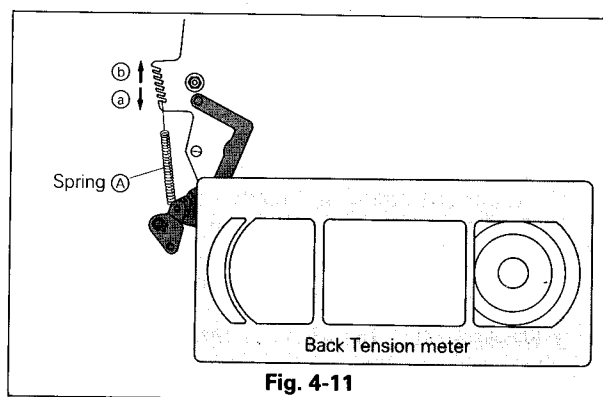

Fig. 4-11
- If the mean value exceeds 47g-cm adjust the value to 42g-cm by adjusting the location of the spring (A) in the direction of arrow a as shown in Fig. 4-11.
- If the pointer mean value is much less than 37g-cm, adjust it to 42g-cm by adjusting the location of the spring (A) in the direction of arrow b.